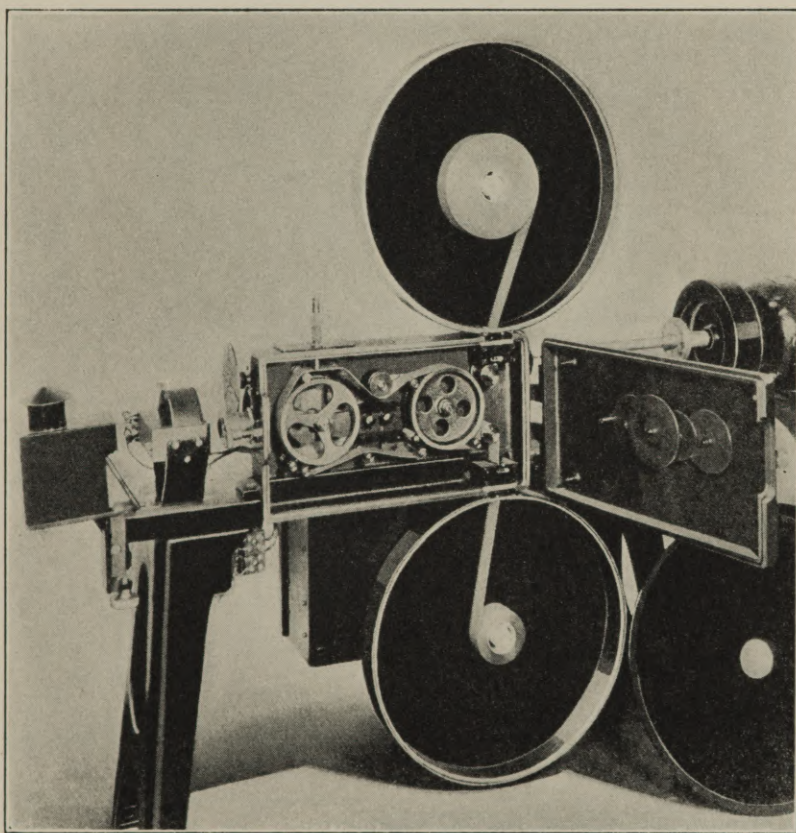

Figure 3
Fig. 3 shows a studio recording machine with the door of the exposure chamber open. In this machine the film travels at 90 feet per minute, and the sound track is made at the edge away from the observer. The line of light, the image of the valve, overruns the perforations by 6 mils, extending toward the center of the film 122 mils inside of the perforation line. The right-hand sprocket serves to draw film from the feed magazine above and to feed it to the take-up magazine below; this sprocket is driven from the motor shaft through a worm and worm-wheel. The left-hand sprocket engages 20 perforations and is driven through a mechanical filter from a worm and worm-wheel similar to that driving the feed sprocket. The mechanical filter enforces uniform angular velocity of the left-hand sprocket which carries the film past the line of exposure: the focussed image of the valve. Balancing of the flywheel which forms part of this mechanical filter holds the angular velocity constant to one-tenth of one per cent, despite the imperfections of the driving gears.
In Fig. 3 the photograph shows a photoelectric cell mounted inside the left-hand sprocket, which carries the film past the line of exposure. Fresh film transmits some 4 per cent of the light falling on it, and modulation of this light during the record is appreciated by the cell inside the sprocket. This cell is connected to a preliminary amplifier mounted below the exposure chamber, and with suitable further amplification the operator may hear from the loud speaker the record as it is actually being shot on the film. Full modulation of the valve implies complete closing of the slit by one side of the wave of current; this modulation should not be exceeded or photographic overload will abound.
4. The Quantity of Acid to be Added at Each Revival. As seen from Figs. 3, 4, and 5, it is necessary to increase the concentration of the acid as the concentration of the sulfite is increased in order to render the bath stable with regard to the precipitation of aluminium sulfite and for this reason it is apparent that the total acidity of a revived bath should be slightly higher than the acidity of the fresh bath in the first place. This increase in acidity cannot be definitely determined, but depends upon the procedure as followed by the individual worker, because various procedures permit the carrying over of varying quantities of developer into the fixing bath, depending upon the concentration of the developer and the period of rinse between development and fixation.